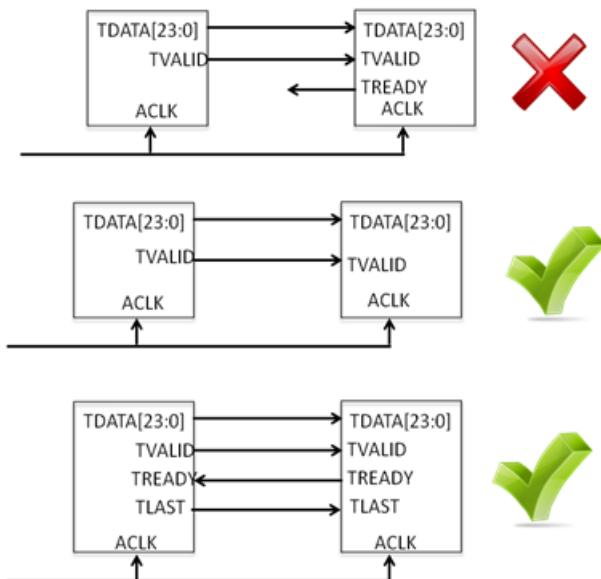

Figure 6-2: Establish AXI4-Stream Signaling-Level Data Exchange Compatibility
- Use of optional signals between two IP being connected to each other, as shown in Figure 6-2, page 133.